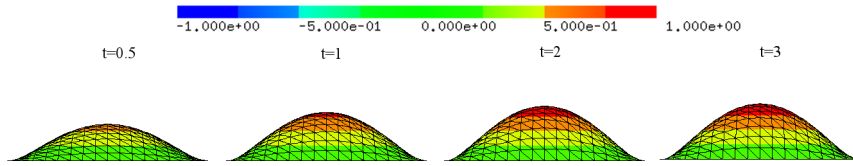

Figure 8: Solution of the heat equation (5) at  $t=0.5$ ,  $t=1$ ,  $t=2$ ,  $t=3$
Figure 8 shows us the solution of the heat equation (5) with  $f$  and  $T = 3$  from example 3 at  $t=0.5$ ,  $t=1$ ,  $t=2$ , and  $t=3$ . At “Visual” we switch “Autoscale” off and set “Min-value”=-1 and “Max-value”=1. To have a 3D view, we switch “Deformation” on and set the view on the y-z plane.